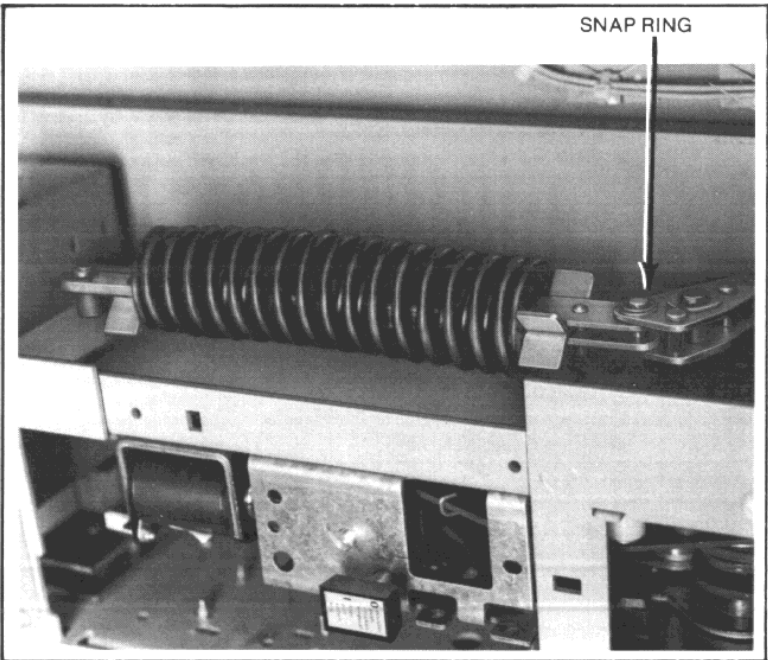

Figure 12
4. Remove the snap rings on both springs (Figure 12). Be certain to note the position of the washers and the main pins so they may be replaced in the same manner when reassembling.